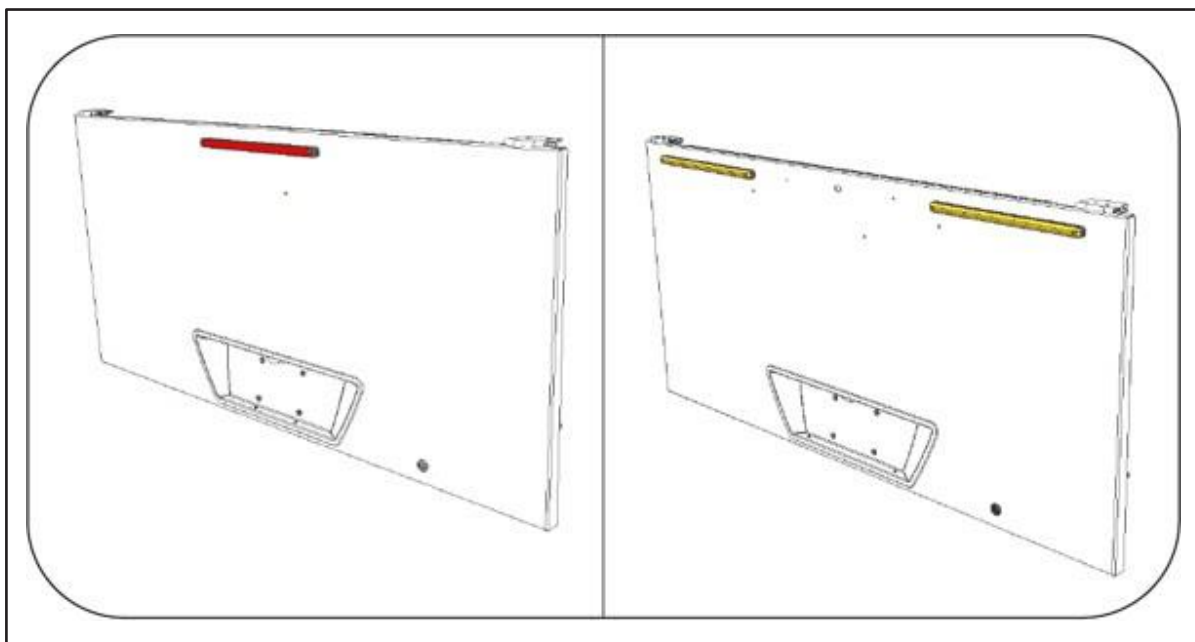

Figure 1 - Location of LED Lamp
- 1.4. Locate the lamp wiring and the point at which the wiring of the lamp is connected to the vehicle harness (see figure 1).